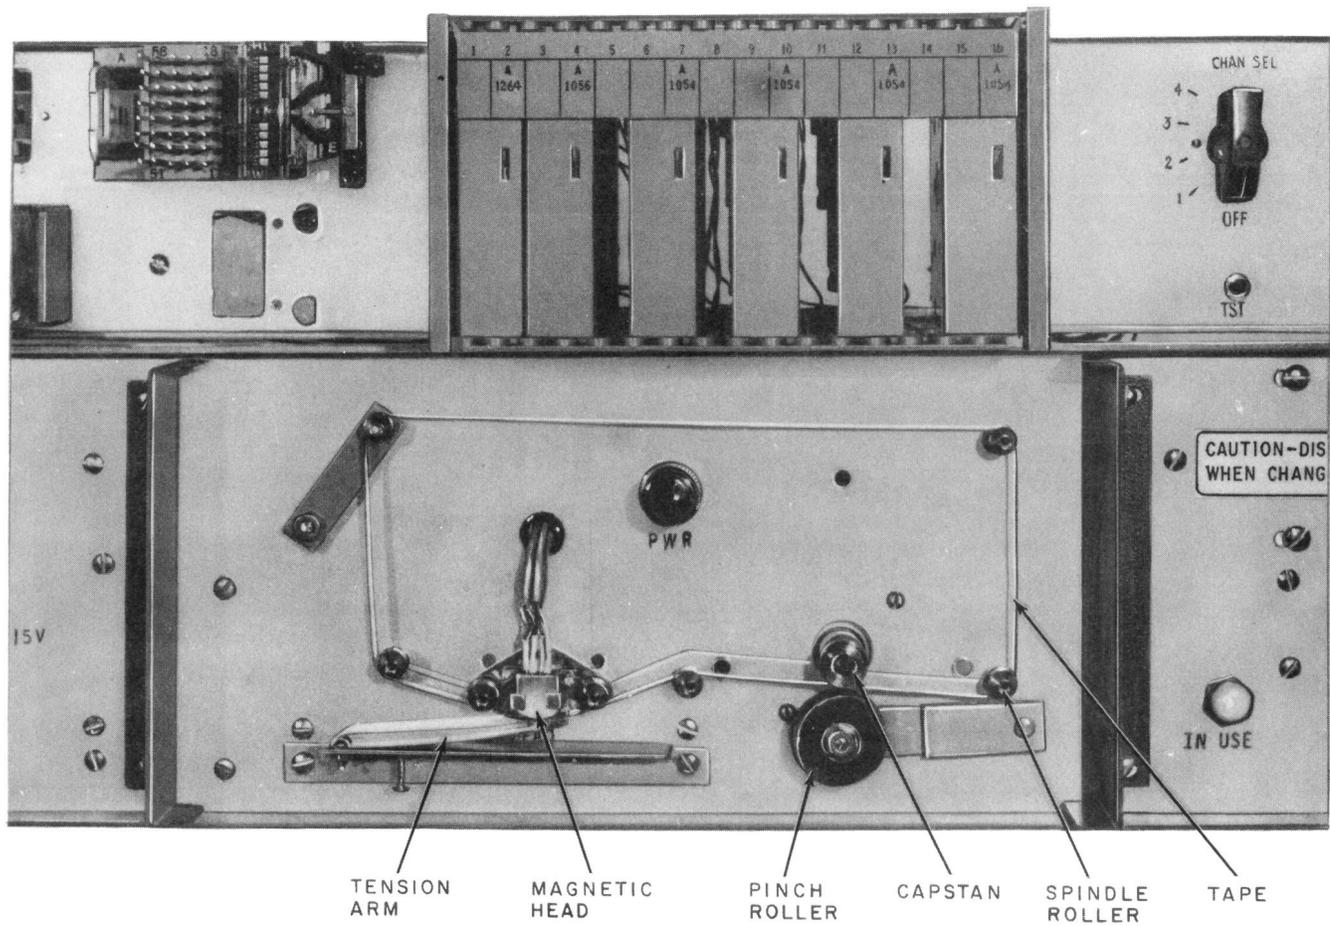

Fig. 2—12A Announcement System (Front Door Removed)
**5.01** The apparatus to be used for tape replacement is shown in Fig. 2. To remove the tape: